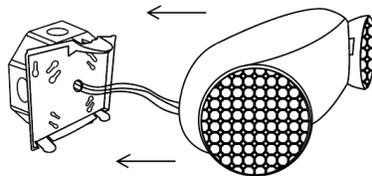

Fig. 2
2. Pull wires through the back plate, then connect the back plate to a recessed junction box using the universal junction box knockouts (Fig. 2).
4. Push main fixture body back on to the back plate, ensuring that the round retaining tabs lock the fixture in place (Fig. 2).